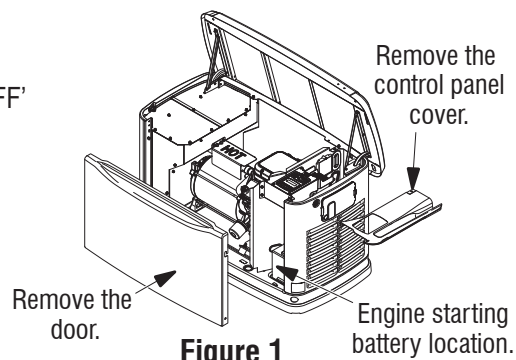

Figure 1
2. Remove door. Remove fasteners securing control panel cover and set aside (Figure 1).